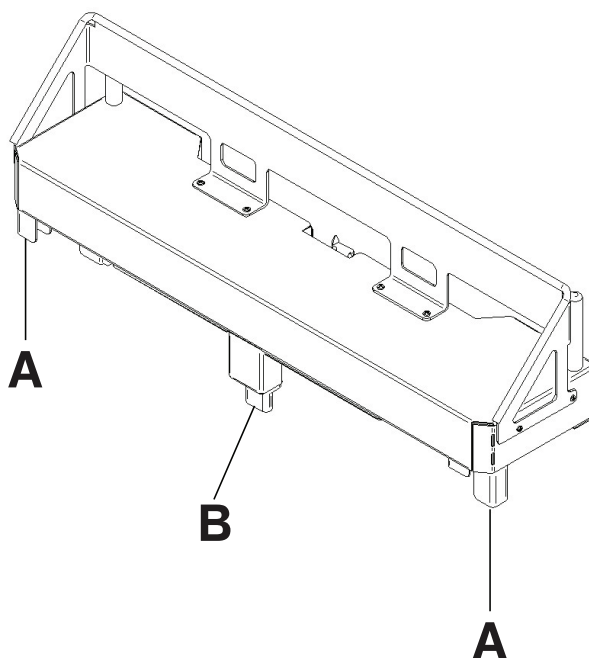

Figure 118: Attaching the optional bed extender
3. Insert the optional bed extender legs (A) and the footboard connector (B) onto the foot end of the product (Figure 118 on page 105).